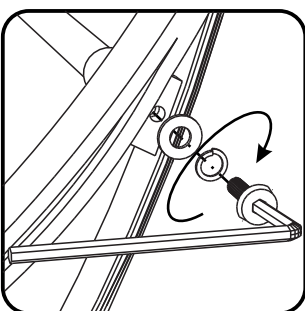

Figure 3
Attach Support (E) to unit with Flat Washers, Spring Washers and Head Cap Bolts (short), tightening bolts only halfway. (See Figure 3)